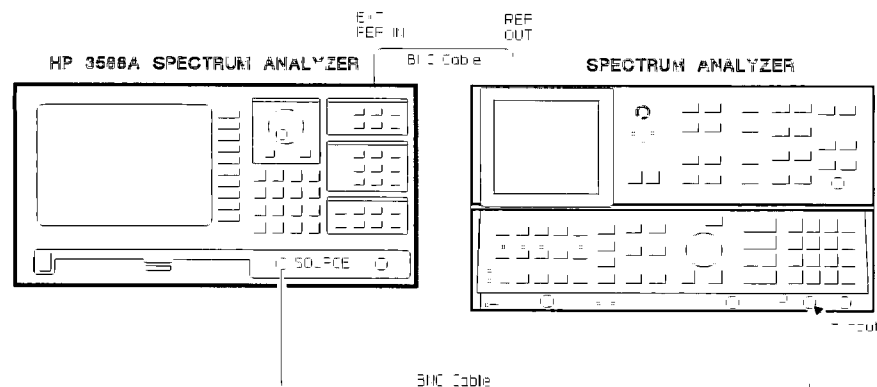

Figure 3-18. Source Spurious Responses Setup
1. Connect the test equipment as shown in figure 3-18.